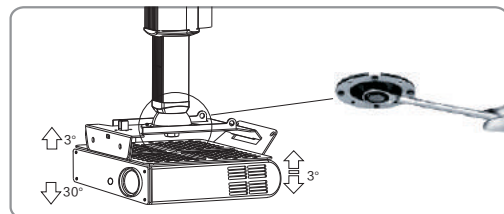

Figure 11
1. Loosen the screws of GPC support bar assembly⑥ via the spanned; adjust the projector to your desired position and fasten it. Figure 11